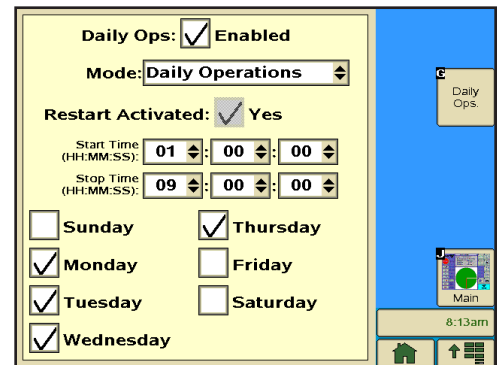

Figure 175-1
1. Push **Prog** and **Daily OPS** to view the Daily OPS Program screen. Refer to Figure 175-1.